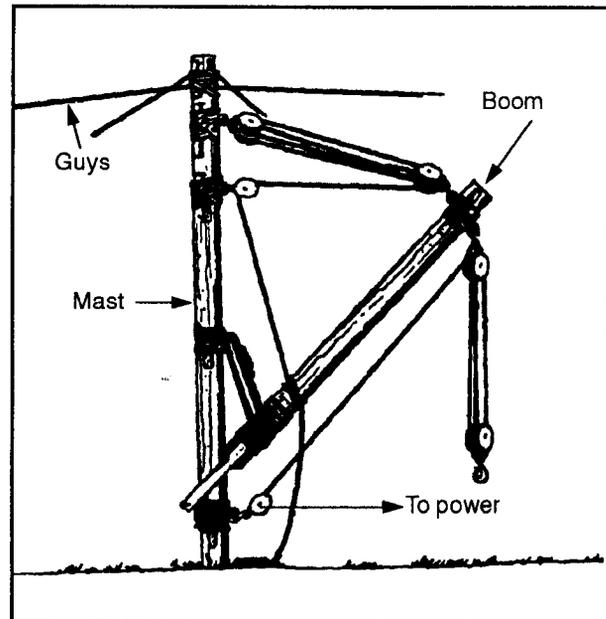

Figure 5-9. Rigging a boom on a gin pole
- Rig a gin pole as described on *page 5-1*, but lash another block about 2 feet below the tackle lashing at the top of the pole (see *Figure 5-9*). Reeve the tackle so that the fall line comes from the traveling block instead of the standing block. Attach the traveling block to the top end of the boom after erecting the gin pole.
- Select a boom with the same diameter and not more than two-thirds as long as the gin pole. Spike two boards to the butt end of the boom and lash them with rope, making a fork (see *Figure 5-9*). Make the lashing with a minimum of sixteen turns and tie it off with a square knot. Drive wedges under the lashing next to the cleats to help make the fork more secure (see *Figure 5-9*).